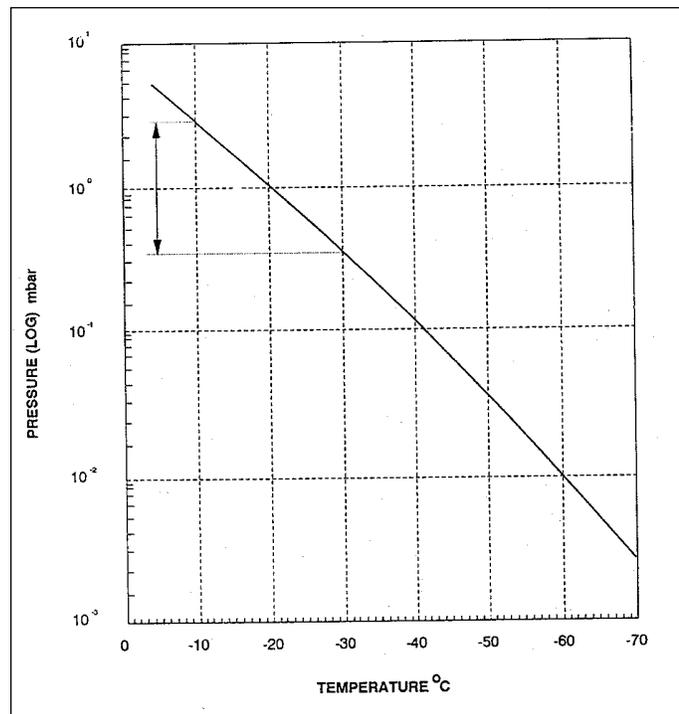

Figure 5. Vapor pressure and temperature
For example, with reference to Figure 5, which shows typical vapor pressure plotted against temperature for aqueous solutions:
- From Figure 5, the increased pressure differential is  $(2.6\text{ mbar} - 3.7 \times 10^{-1}\text{ mbar}) = 2.23\text{ mbar}$ .